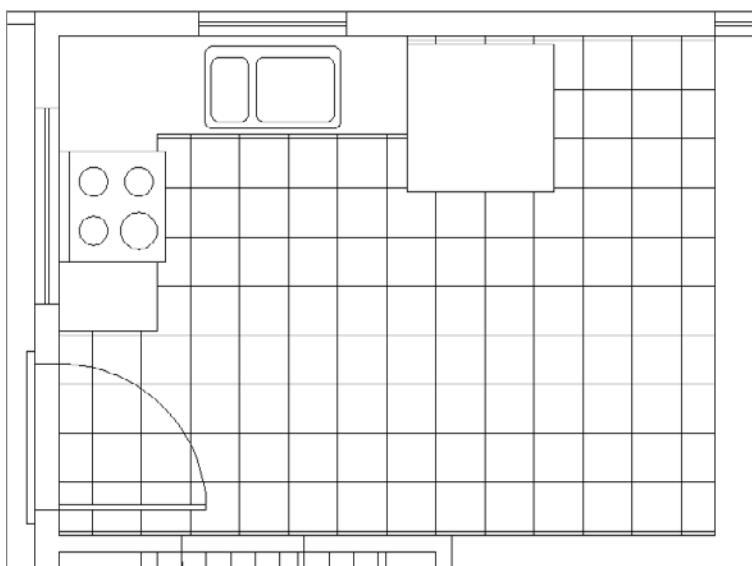

FIGURE 11.20 Hatching the kitchen: the two tracking lines (top) and the finished, centered hatch (bottom)
4. From the Properties panel, change the Hatch Spacing to 12" (305), and verify that Double is selected by expanding the Properties panel.
6. Use the running Midpoint osnap in conjunction with Object Snap Tracking; acquire the midpoint of the lower kitchen area line and the midpoint of the right-side kitchen area line. When the cursor is positioned properly, two tracking lines and a tooltip appear (see the top of Figure 11.20).
This places the hatch of 12" (305 mm) tiles in the kitchen (see the bottom of Figure 11.20). Notice how the pattern is centered left to right and top to bottom.